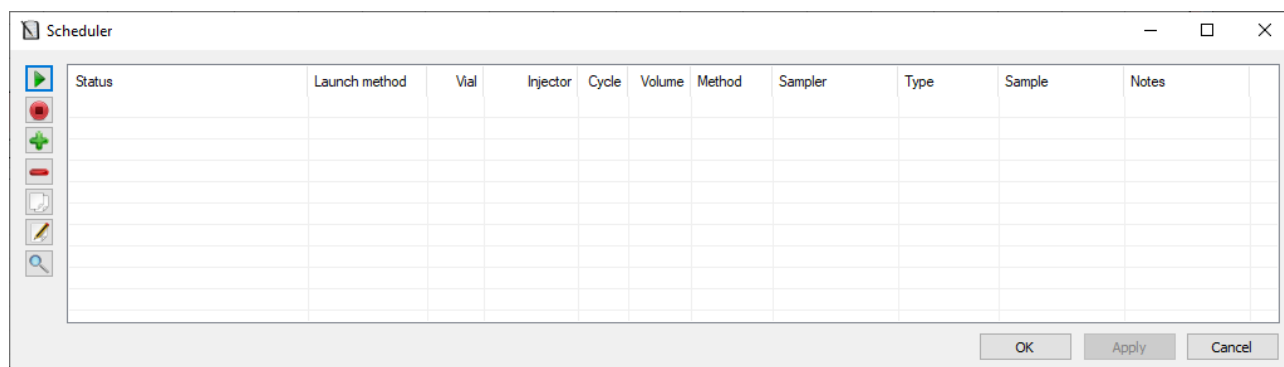

Fig. 41: Scheduler
To automate the operation of devices, use the scheduler. In the scheduler (Fig. 41) you can create and run a measurement series for analysis or calibration. The scheduler window contains indicators for the connection of the chromatograph and the sampler, and also displays information about the series of analyzes.
1. On the toolbar, click  **Scheduler**. The *Scheduler* window (Fig. 41) opens.